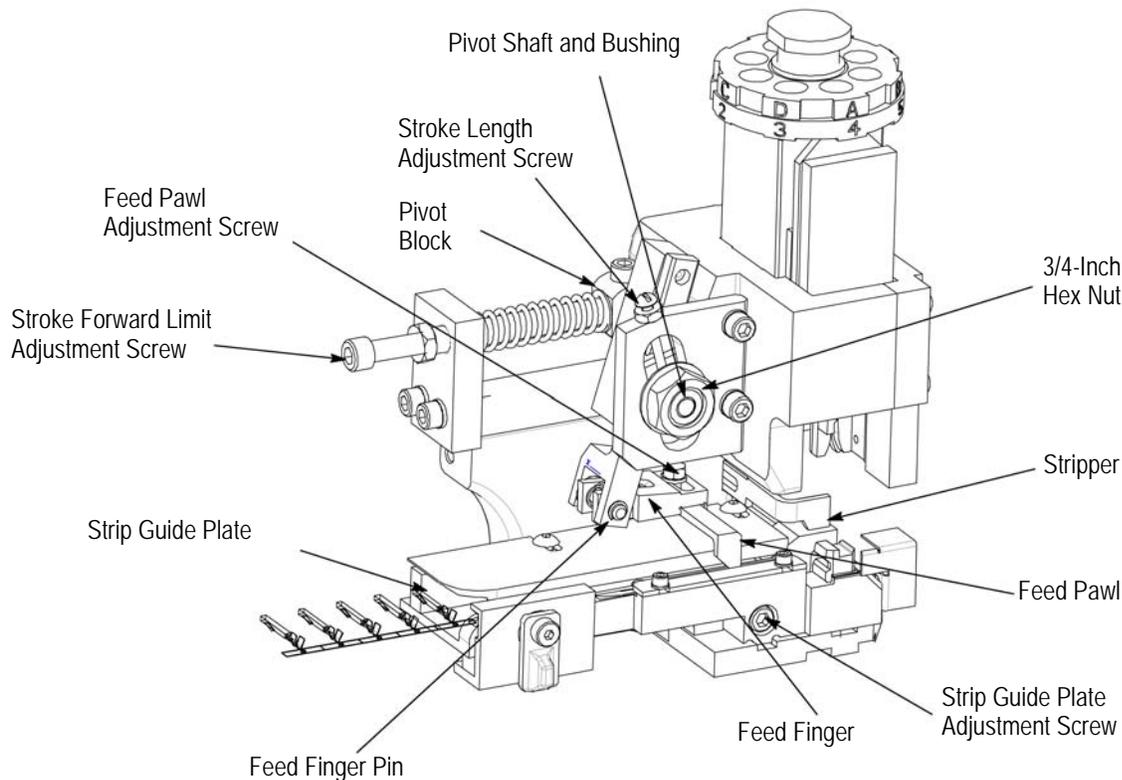

Figure 2
3. Loosen screw on top of pivot block (see Figure 2). Turn the stroke forward limit adjustment screw **COUNTERCLOCKWISE** to move the forward limit toward anvil, or **CLOCKWISE** to move the forward limit away from anvil. Tighten screw on top of pivot block.
#### a. Applicators with mechanical-feed systems (Figure 2) -
- 1) Loosen slightly the 3/4-in. hex nut, on side of applicator, to allow the pivot shaft to move in slot (see Figure 2).